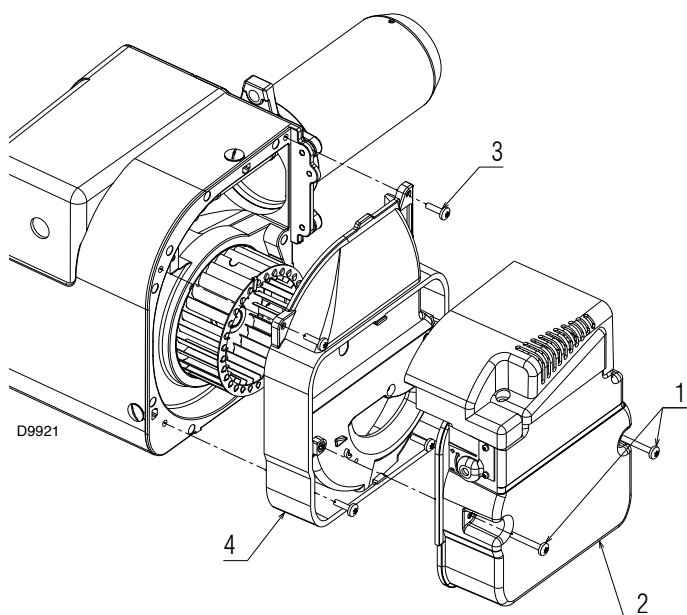

Fig. 23
- undo the screws 1)(Fig. 23) and take out the air damper assembly 2);